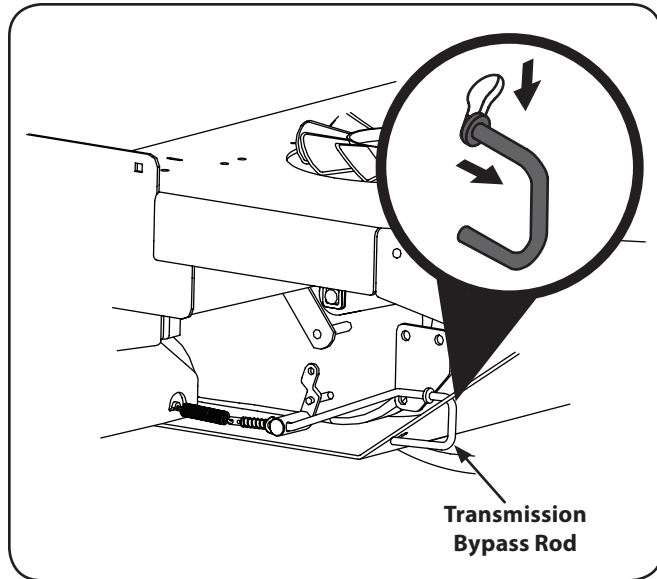

Figure 3-1
1. Locate the transmission bypass rod in the front right of the transmission. See Fig. 3-1.